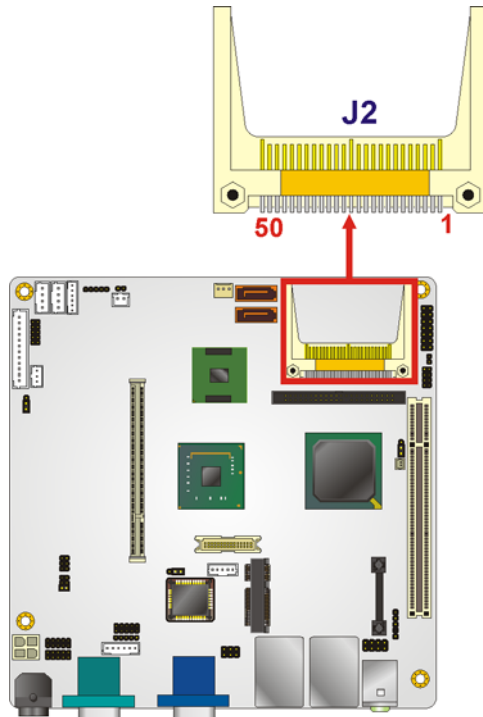

Figure 4-3: CF Card Socket Location
- CN Location:** See **Figure 4-3**